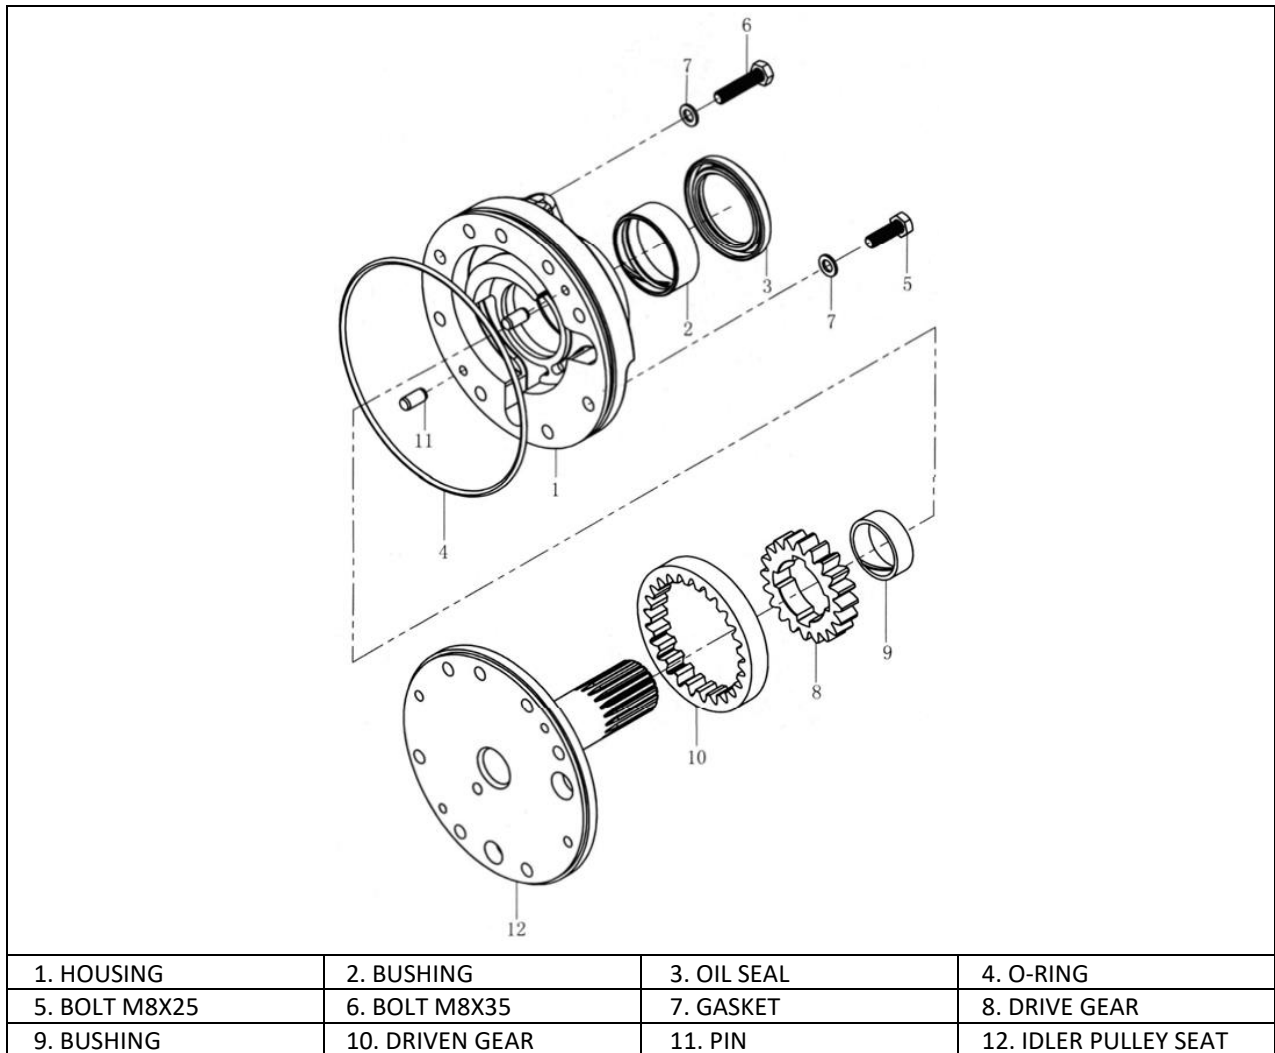

Fig.2-6 Charge Pump
- Replace the ring (A), (B) if they are damaged.
- Restraining ring (A), (B) should face to gears.
2.6. Charging Pump (Fig. 2-6)